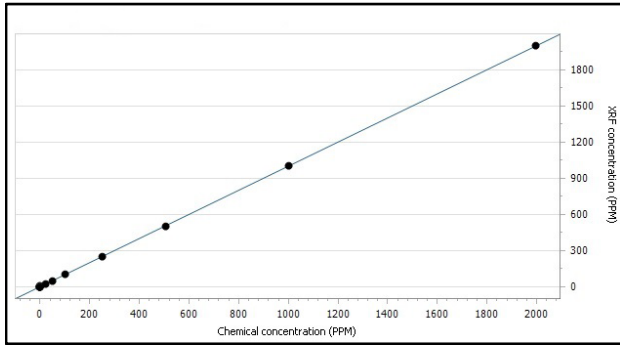
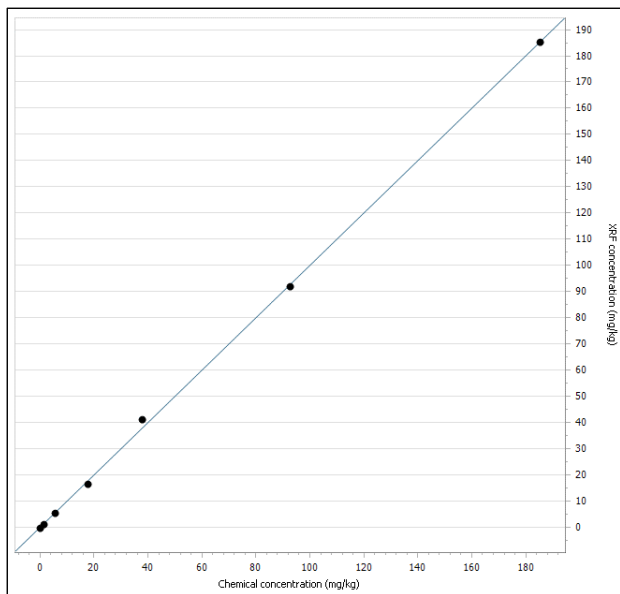

Fig. 4: Calibration curve for P calibration in vegetable oil for the concentration range of 0 to 2000 ppm P.
Fig. 5: Calibration curve for Cl in vegetable oil for the lower concentration range of 0 to 50 ppm Cl.
Sets of matrix-matched vegetable oil standards have been used to calibrate the S2 POLAR. Typical used calibration ranges for P are up to 2000 ppm P (Fig. 4), up to 1000 ppm for S, up to 100 ppm for Cl (Fig. 5), and up to 1000 ppm for Ca. The sets also contain blank samples, suitable quality control (QC) samples for lower